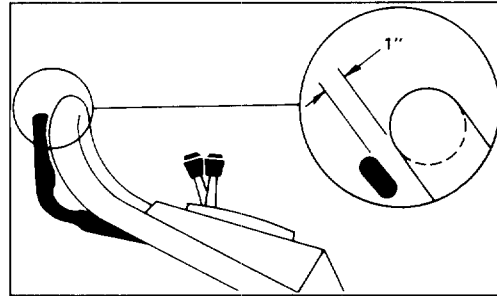

Figure 20
3. CHECK ADJUSTMENT—Slowly pull mower backwards while control bar is gradually moved toward handle. Adjustment is correct when rear wheels stop turning and control bar is about 1 inch from handle (Fig. 20).